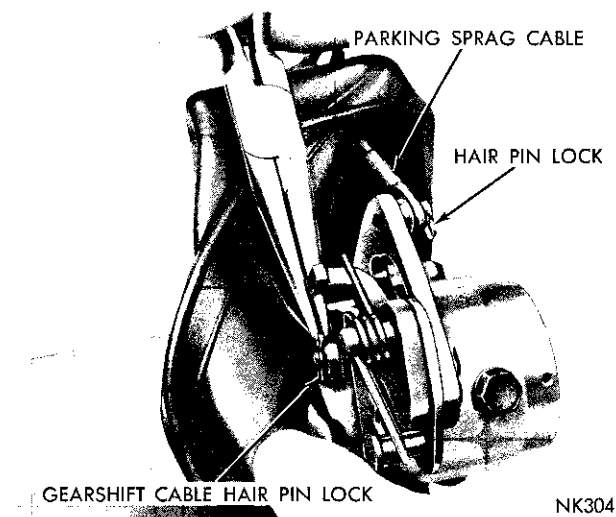

Fig. 8—Removing or Installing Cable Hair Pin Locks
(5) Place the gearshift lever in the "low" position, carefully work the seal (boot) upward and remove the hair pin locks securing cables to their operating levers (Fig. 8). Remove the cable assemblies, then slide the seal upward on the column jacket.
(12) Install the parking sprag cable first, secure it to the sprag lever pin with the hair pin lock (Fig. 8). Install the gearshift cable, secure it to the shift arm pin with the hair pin lock. Align the seal boot and cable lock plates, then install the rubber washer, metal washer and nut. Tighten the nut securely.